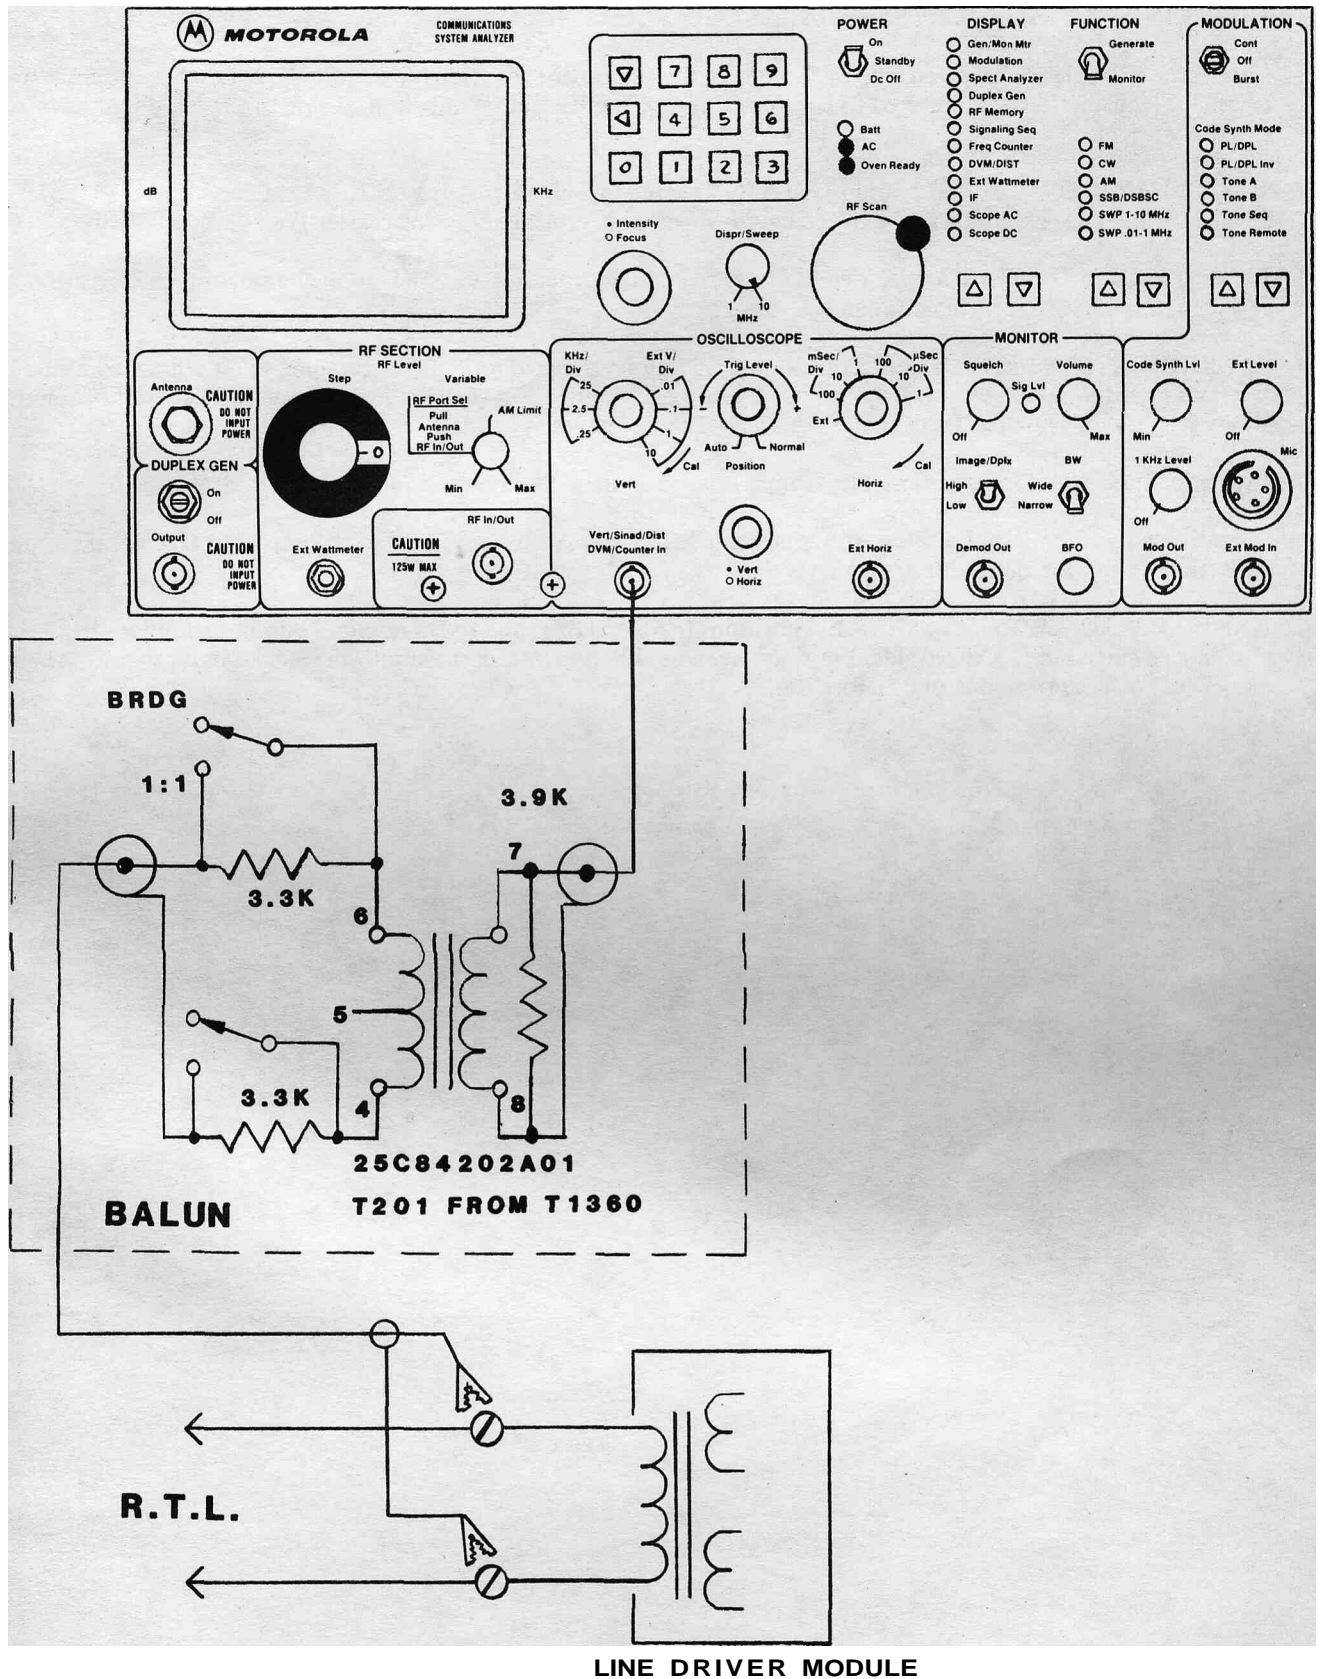

FIGURE 4-18. BALUN SETUP; MEASURING LEVELS
2. Connect the BALUN's balanced side (high impedance) across the phone line. Connect the BALUN's unbalanced side to the DVM/Counter In jack, as shown in figure 4-18. Set the BALUN switch in the OPEN position.